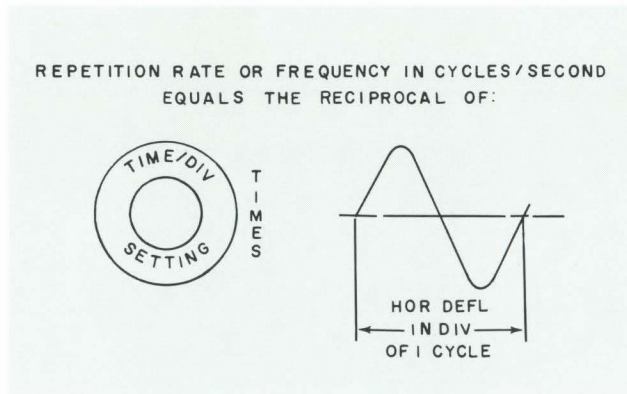

Figure 2-5. Finding the Frequency
3. Take the reciprocal of the product obtained in Step 2 (that is, divide it into one). The resulting quotient is the desired frequency or repetition rate in cycles per second. See Figure 2-5.